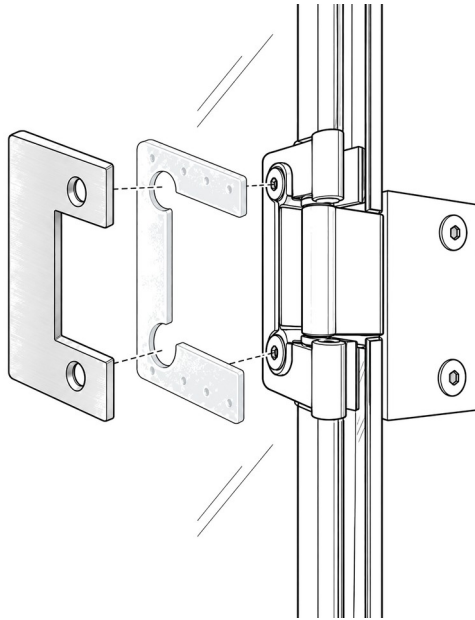

Figure 24. Inside the sauna at the Front Right Panel: a large flat gasket and a metal plate aligned with the two bolts on the panel side of a hinge.
- From inside the sauna, place a large flat gasket and a metal plate against the inside face of the Front Right Panel at the top hinge and secure them with two bolts (**Figure 24**). **Do not tighten them all the way yet.**